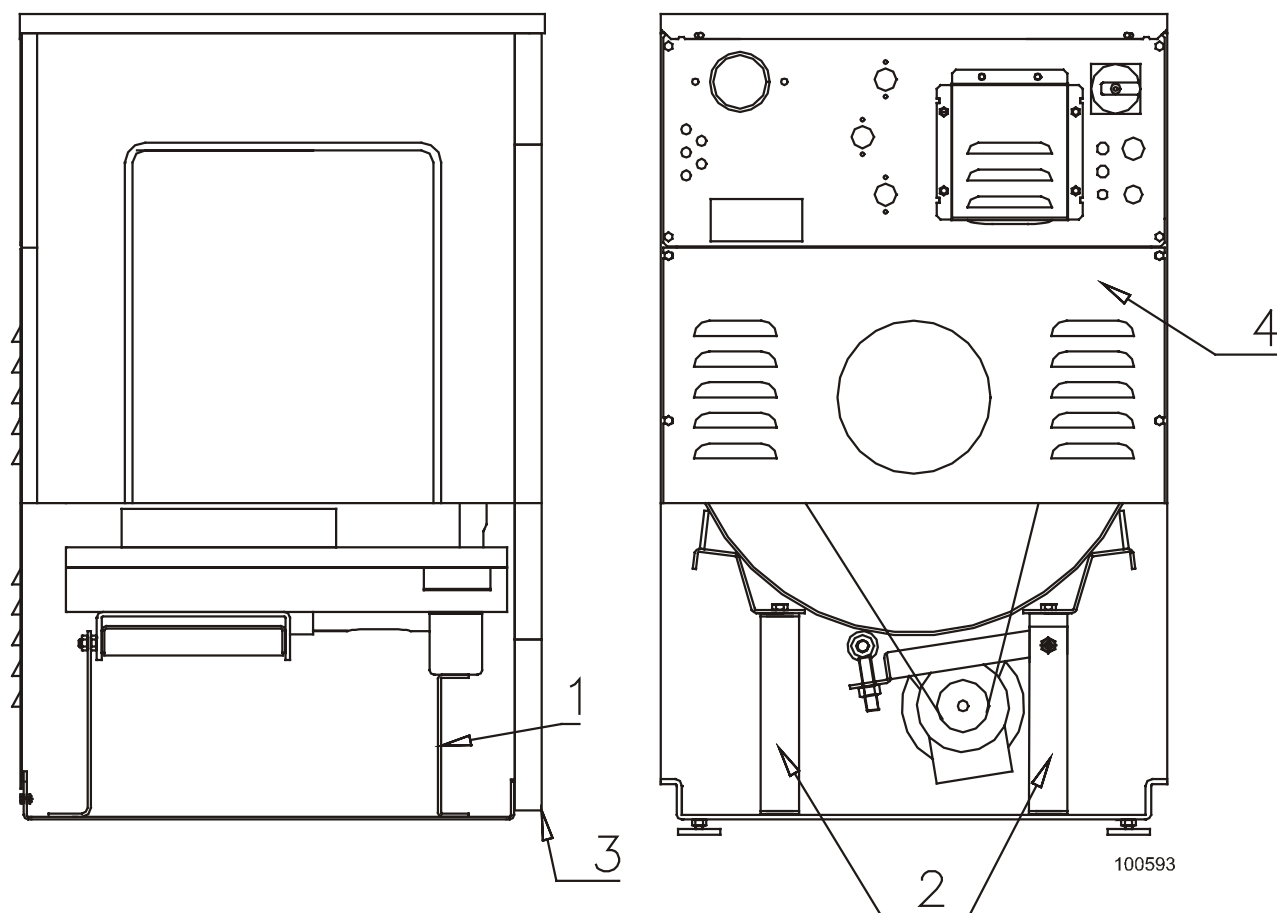

Fig. 4.4. Transporting braces
- Before placing the machine on its place, remove the packaging, loosen the rear panel (see fig. 4.4. pos.4) and the service panel (see fig. 4.4. pos.5). Remove the four bolts, which holds the machine on the wooden pallet. Lift up the machine carefully, take care not to damage the machine components.
1. Remove fixation plate front, fig. 4.4. pos. 1.
2. Remove fixation plate rear right, fig. 4.4. pos. 2.
3. Remove fixation plate rear left, fig. 4.4. pos. 2.
After removing the shipping bars put the service panel, fig. 4.4. pos.3 and the rear panel, fig.4.4. pos.4 back on the machine. Keep the shipping bars pos.1, 2 for possible future transportation.